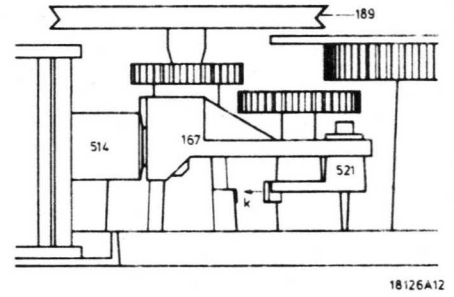

Fig. 6
b. Pressure roller solenoid RE475 (Fig. 6)